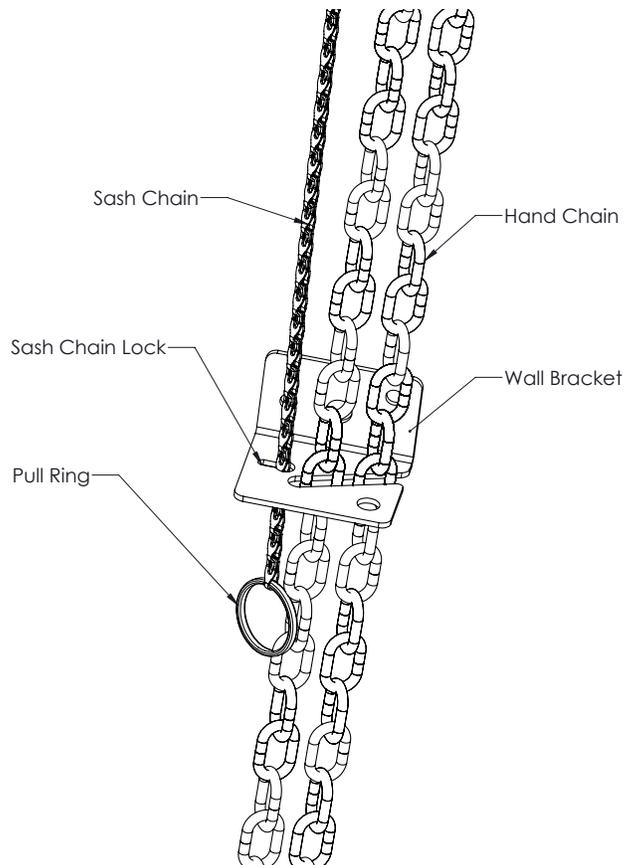

FIGURE 4
3. **Mount Manual Disconnect/Chain Keeper:** Using suitable hardware, mount the manual disconnect directly beneath the operator approximately four (4) feet above the floor. Install the sash chain on the spring that hangs from the operator and through the lock hole in the wall bracket (Figure 4, page 5). Pulling down on the pull ring should engage the hand chain allowing for manual operation.
1. Pull down on the sash chain pull ring until sash chain is taut. Pull the sash chain into the lock (Figure 4). This will engage the hand chain for manual operation..